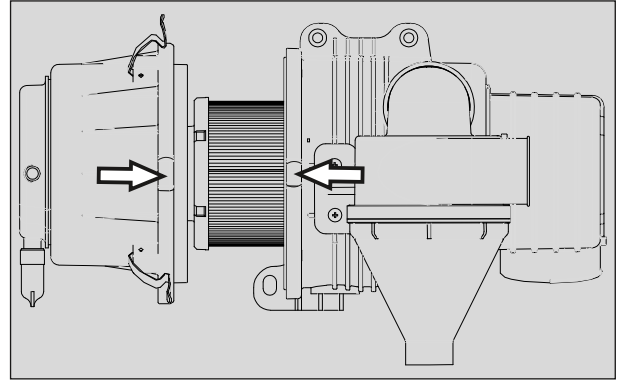

Fig. 2.8
- After cleaning, assemble the cover by aligning the shown the projections or orienting the drain plug downwards. (Fig. 2.8)